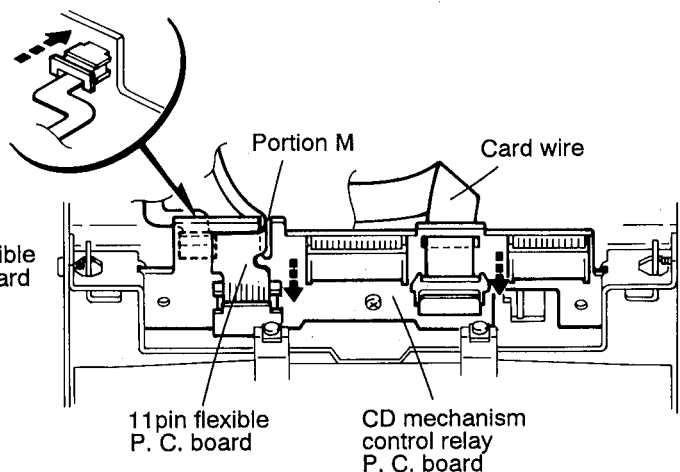

Fig. 4-33
11. Connect the 4 pin flexible P.C. board to the connector on the the CD control relay P.C. board (See Fig. 4-33).
12. Pass the 11 pin flexible P.C. board through the groove at the portion M of the CD control relay P.C. board and connect it to the connector (See Fig. 4-33).
13. Connect the card wire to the connector (See Fig. 4-33).